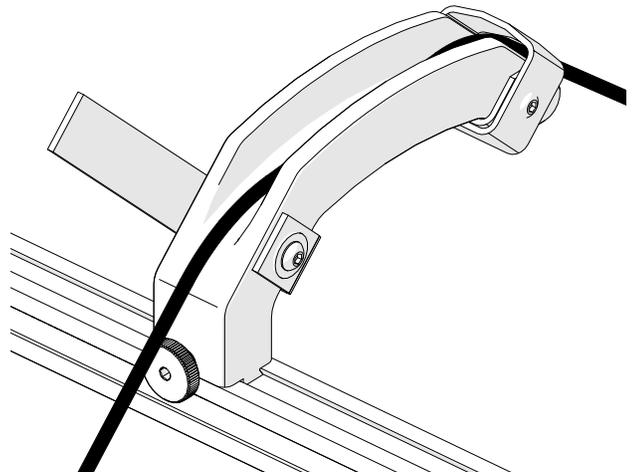

Fig. 18 - Handle provides cable management
3. Open the velcro straps and place cables and hoses in the handle (Fig. 18). Reattach the velcro straps to secure the cables and hoses within the handle.